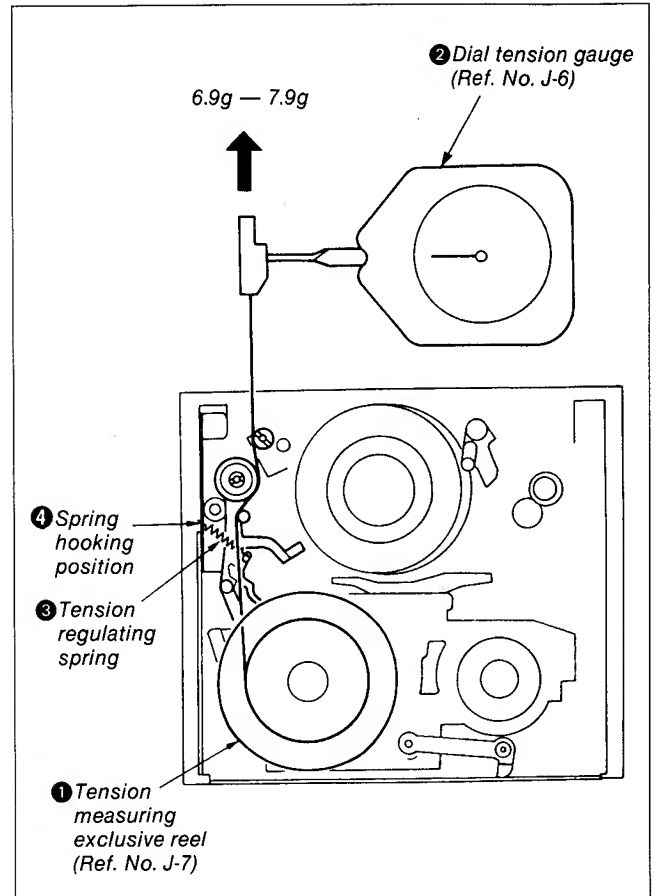

Fig. 8-45.
- 4) Move spring hooking position ④ of tension regulating spring ③ so that the tension applied becomes within the range of 6.9 to 7.9g. (See Fig. 8-45)